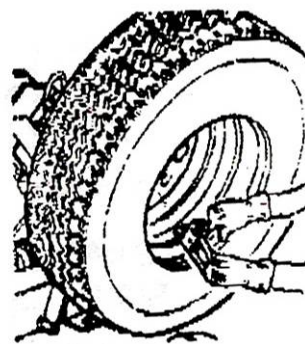

Fig2.8
- 5) Prick up the tool arm; unload wheel circle clip push the tire inside. Fix the wheel circle clip on the rim and turn it to the upward of the removing and fixing hook (Fig2.8).